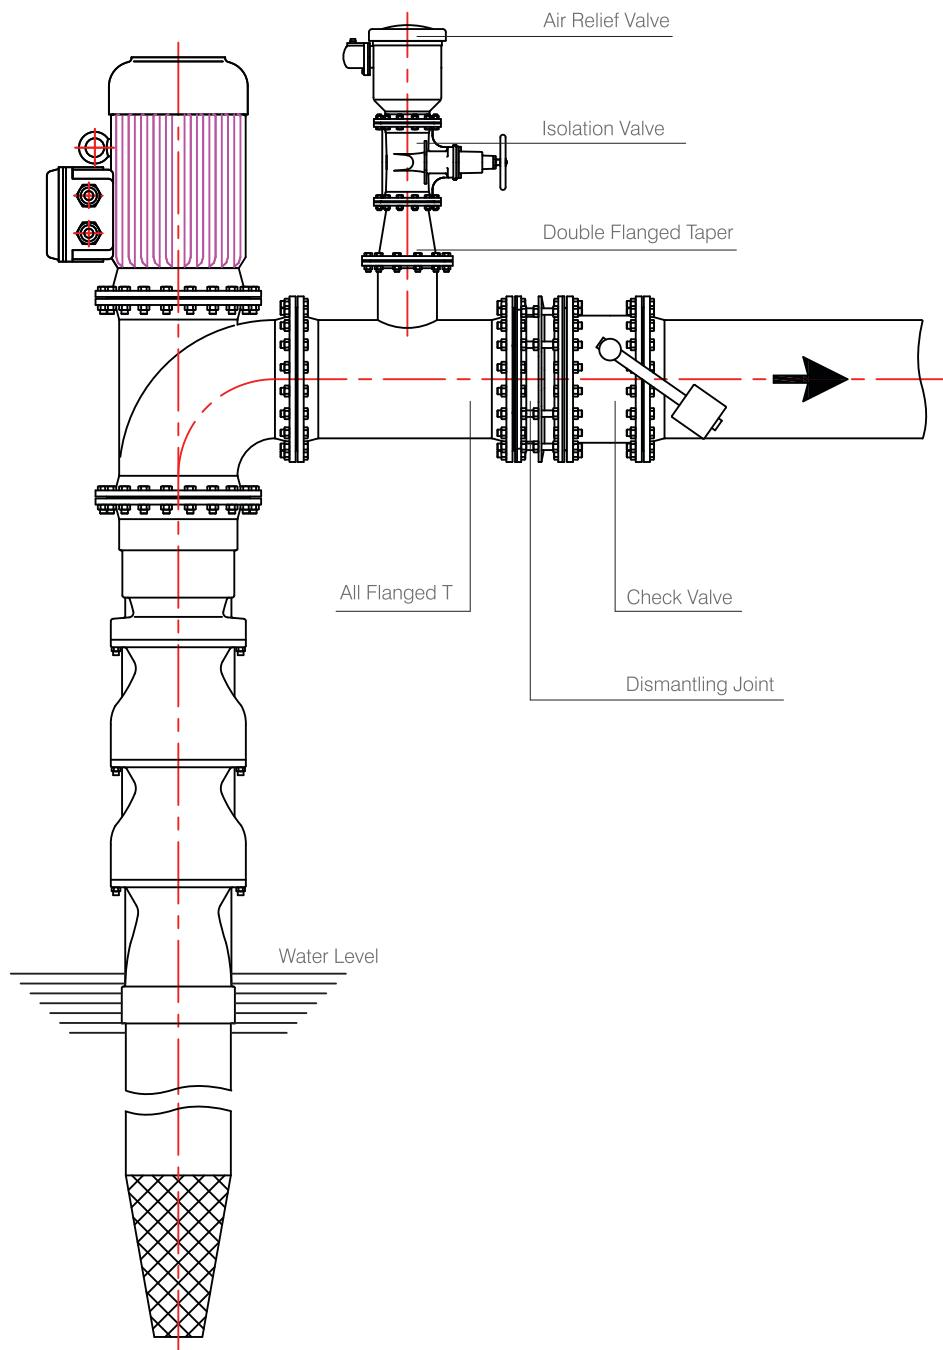

Figure 11a: Vertical turbine pumps
- If there is any deep well pump, air relief valve should also be installed as seen in figure 11a-11b